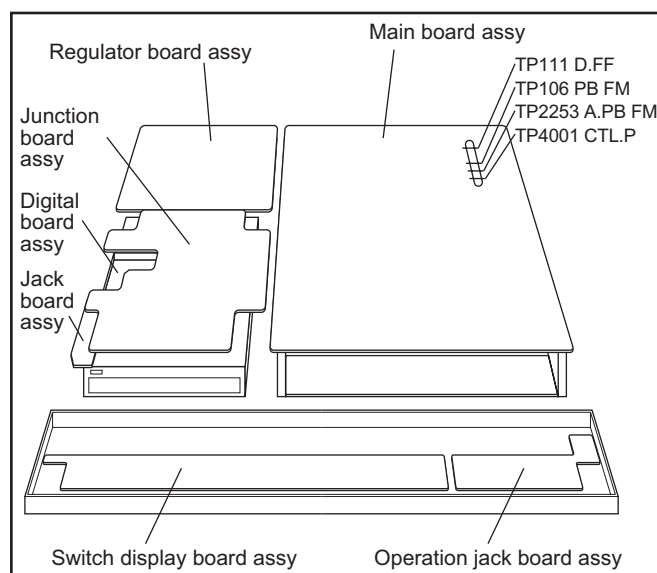

Fig.2-1a
- (1) Refer to the disassembly procedure and perform the disassembly of the major parts before removing the Mechanism assembly.
- (2) Remove the screws that fix the Mechanism, Main board assembly to the bottom chassis. If any other screws are used to fix the boards, remove them also.
- (3) Remove the combined Mechanism, DVD unit, regulator, digital, junction and Main board assemblies.
- (4) If any other major parts are used, remove them also.
- (5) Connect the wires and connectors of the major parts that have been removed in steps (1) to (4). (Refer to Fig. 2-1a.)
- (6) Place the combined Mechanism, Main board and other board assemblies upside down.
- (7) Insert the power cord plug into the power outlet and then proceed with the diagnostics and servicing of the board assembly.